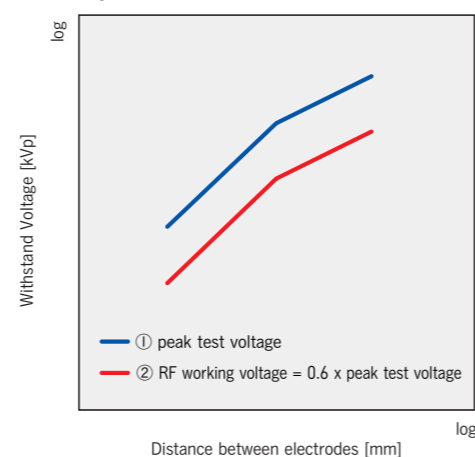

Figure 3
This refers to a limit value of dielectric breakdown voltage between electrodes (Figure 3. ①). Before shipment, MEIDEN tests vacuum capacitors to confirm that no dielectric breakdown occurs when the rated voltage is applied for the specified time (one minute).
This refers to the rated voltage which can be applied continuously. The RF working voltage is set at 60 % of the peak test voltage (Figure 3. ②). An instant discharge can occur even below than RF working voltage.